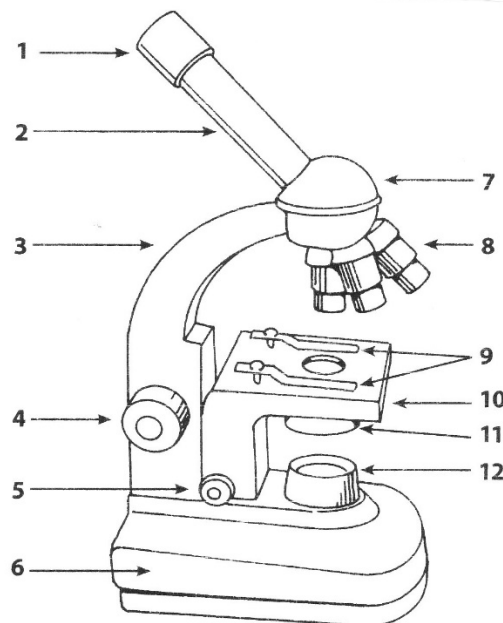

Figure 1: Compound light microscope
- (2). (a). Label each part of the compound light microscope shown in Figure 1. State the function of part 1, 2, 4, 5, 8,10, and 11.